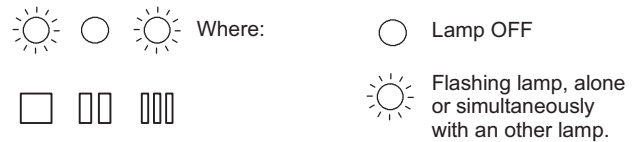

Figure 10.17
- The boiler runs in c.h. mode and the lamps F give the indication as in Figure 10.17.